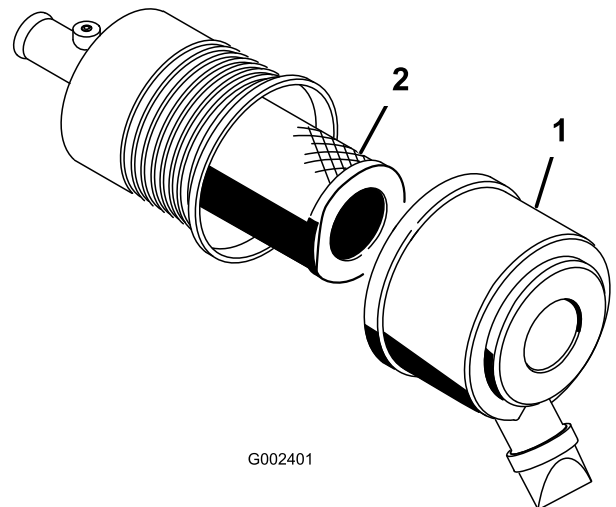

Figure 38
1. Release the latches on the air cleaner and pull the air-cleaner cover off the air-cleaner body (Figure 38).
- Gently slide the filter out of the air-cleaner body (Figure 38).
- Carefully slide the filter over the body tube (Figure 38).
- Install the air-cleaner cover with the side facing up, and secure the latches (Figure 38).